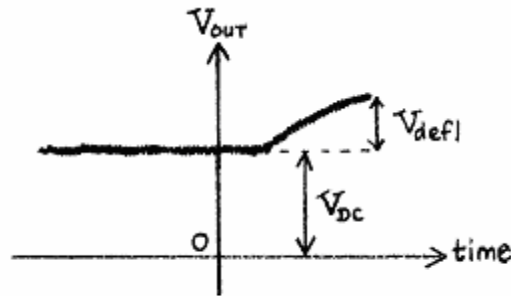

Figure 5. Voltage output from strain gage circuit
- Take the ruler in your hand and deflect it upward and downward. Observe the resulting voltage output  $V_{OUT}$  on the oscilloscope. If you cannot see a clear deflection voltage (when you bend your ruler), adjust the vertical scale on your oscilloscope until you can see a clear deflection.  $V_{OUT}$  is the sum of two voltage components given by  $V_{OUT} = V_{DC} + V_{defl}$ , where  $V_{DC}$  is a roughly constant DC bias voltage and  $V_{defl}$  is a voltage that depends on the deflection of the metal ruler. For the resistor values you have used, your deflection voltage  $V_{defl}$  should have a magnitude of 50 mV or less3, while the positive DC bias  $V_{DC}$  should be on the order of 150 mV or less (Figure 5).
4. In Experiment #1, you made sure that your DC bias was approximately 150 mV. If you had chosen a smaller DC bias, such as 10 mV, what would happen if you bent your ruler by a large amount in (a) the positive direction and (b) the negative direction? Illustrate your answer with a picture similar to Figure 5 above.